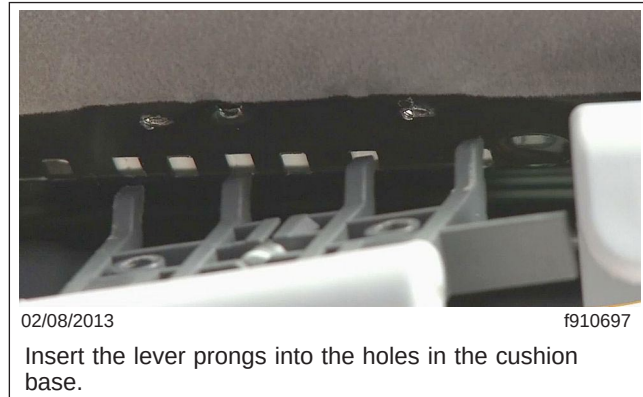

Fig. 8, Installing the Cushion Extension Lever
6. Move the cable of the seat tilt lever over the cushion extension lever to the left. Insert the four prongs of the lever into the holes in the seat cushion base. See Fig. 8. Secure the lever with two screws. Tighten the screws 22 to 31 lbf·in (250 to 350 N·cm).